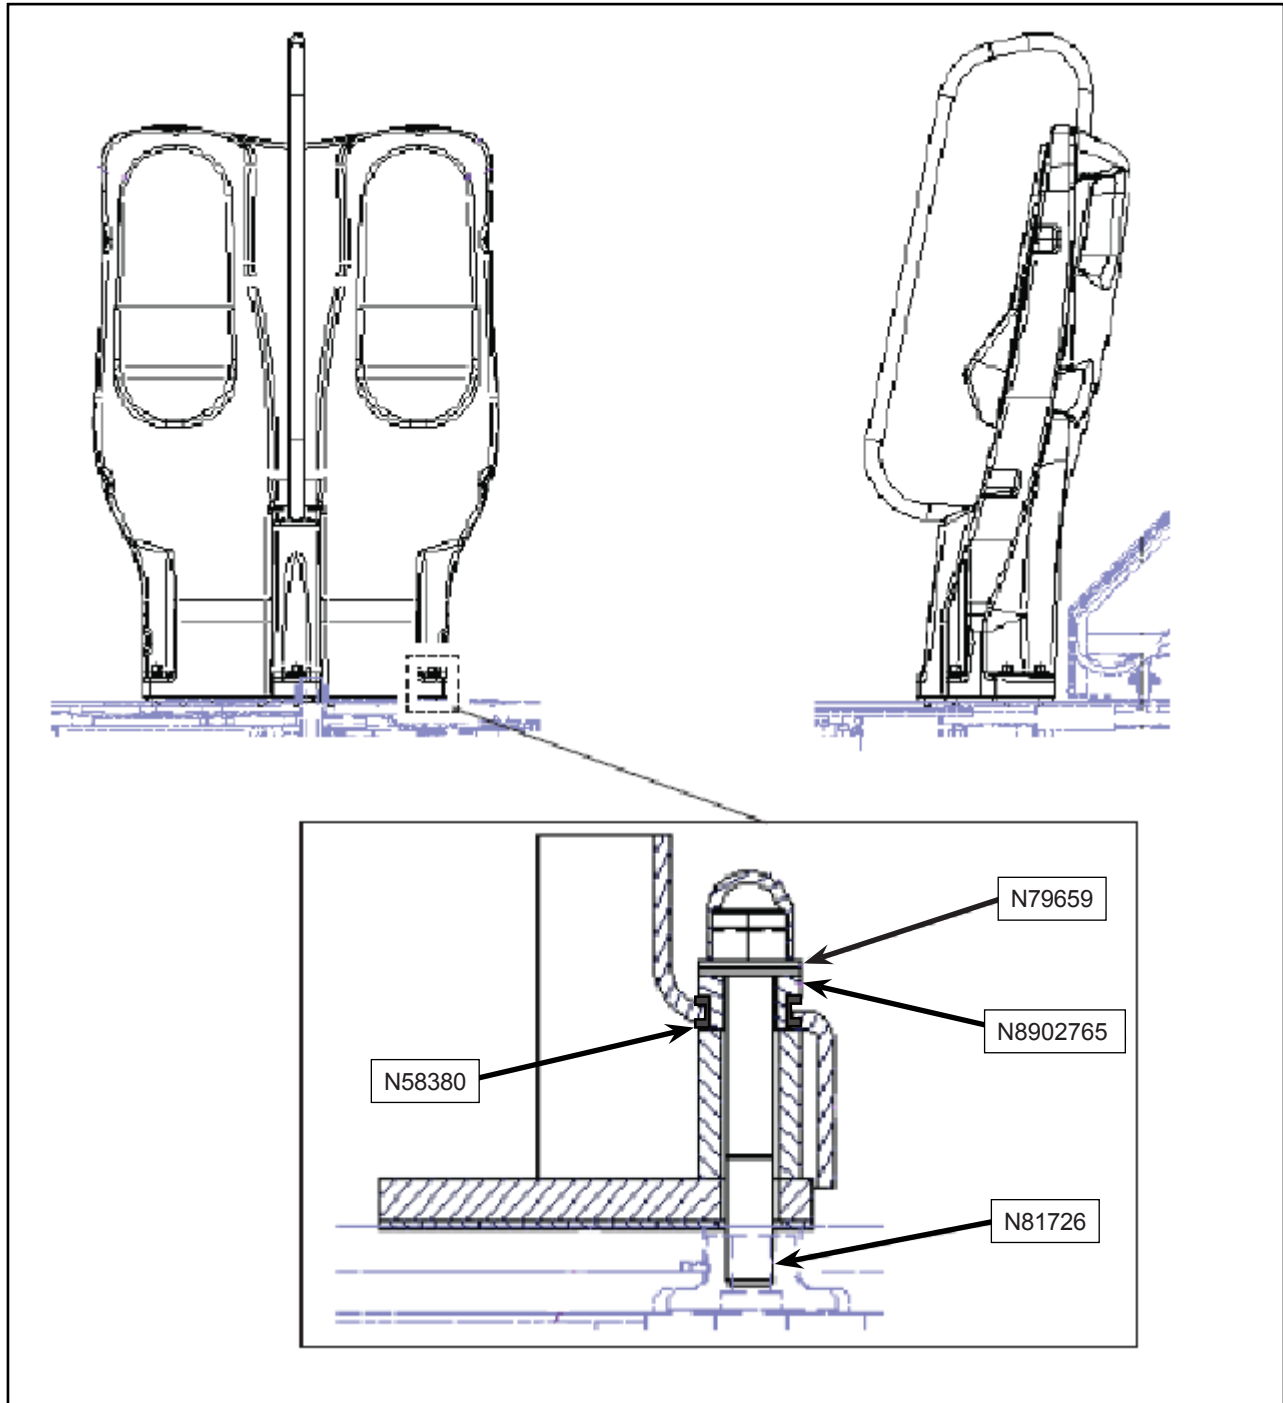

Figure 2 - Hardware Location
- 1.3. Install the new bum rest shells using the rubber grommet N58380, the new bushing N8902765, self-locking washer N79659 and screw N81726. Torque to 30.2 lb-ft (41 N•m). See Figure 2. Typical for 7 locations.